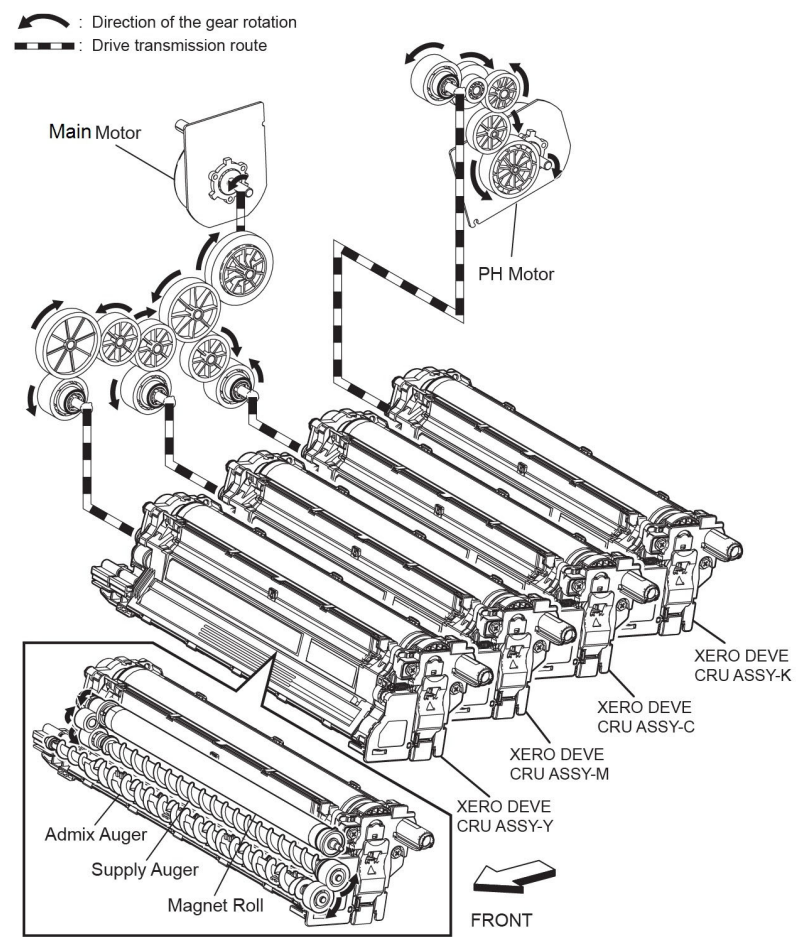

Figure 5 Development feed (Sub Motor)
Figure 4 and Figure 5 show the development feed components. The main motor drives the rolls and gears of the development components (K). The sub motor drives the rolls and gears of the development components (Y/M/C)